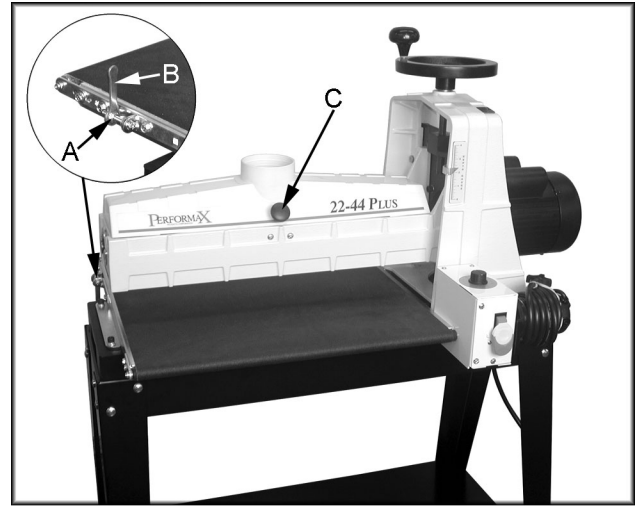

Fig. 3
Tighten hex nut (A, Fig. 3) on the side the belt is drifting towards, and loosen hex nut on the opposite side. Use the attached wrench (B, Fig. 3) to adjust the hex nuts. **Note:** Adjustment should be made in 1/4 turns of the hex nut. Allow time for the belt to react to the adjustment. Do not over adjust.
To open dust cover push in on the knob (C, Fig 3) and lift.
1. Push in and lift knob (C, Fig. 3) to open cover and remove abrasive strip. If you are unsure how to do this see the "Wrapping Abrasive Strips" section page 10.